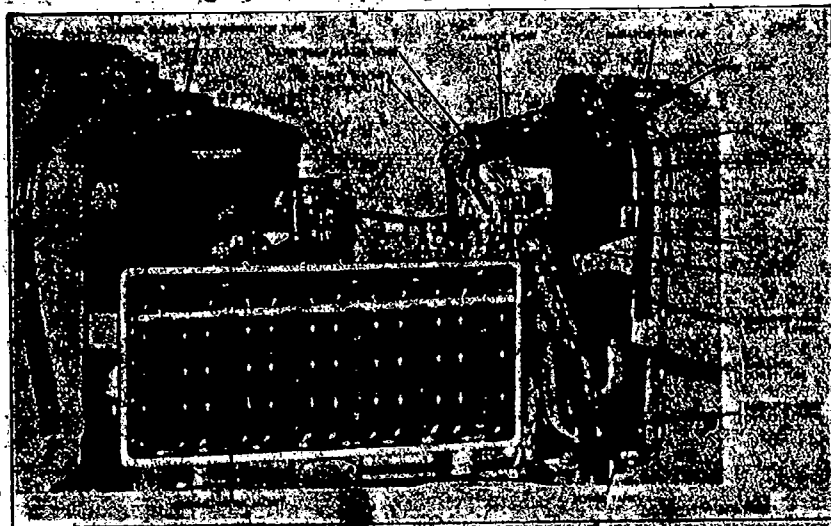

Fig 2-17. Cooling system.
- (1) **Liquid cooled.** In the liquid-cooled systems, water is circulated through the system and cooled by air flowing between the radiator tubes and fins. Figure 2-17 shows how the liquid is circulated through the engine. An impeller-type, temperature-sensitive pump circulates the liquid through the cylinder block and radiator. The thermostat, a unit that functions automatically, controls the flow of liquid. If the engine is cold, the thermostat will keep the liquid from flowing through the radiator and dissipating the heat; this allows faster warmup. If the thermostat is open, the liquid passes on to the top (inlet part) tank of the radiator and dissipates the heat into the air stream as it flows through the radiator core. When the thermostat is closed, the water is circulated through the cylinder block, bypass hose, pump, and back through the block. The thermostat is designed to start opening at a specified temperature, usually 160° F, and to be fully open at the operating temperature. The most efficient operating temperature is just over 212° F, coolant temperature. To attain the higher temperatures and prevent the water from boiling, some cooling systems are equipped with a radiator pressure cap to raise the boiling point. Marine Corps publications list additives that are authorized to be used in the cooling system to prevent rust, corrosion, and freezing.